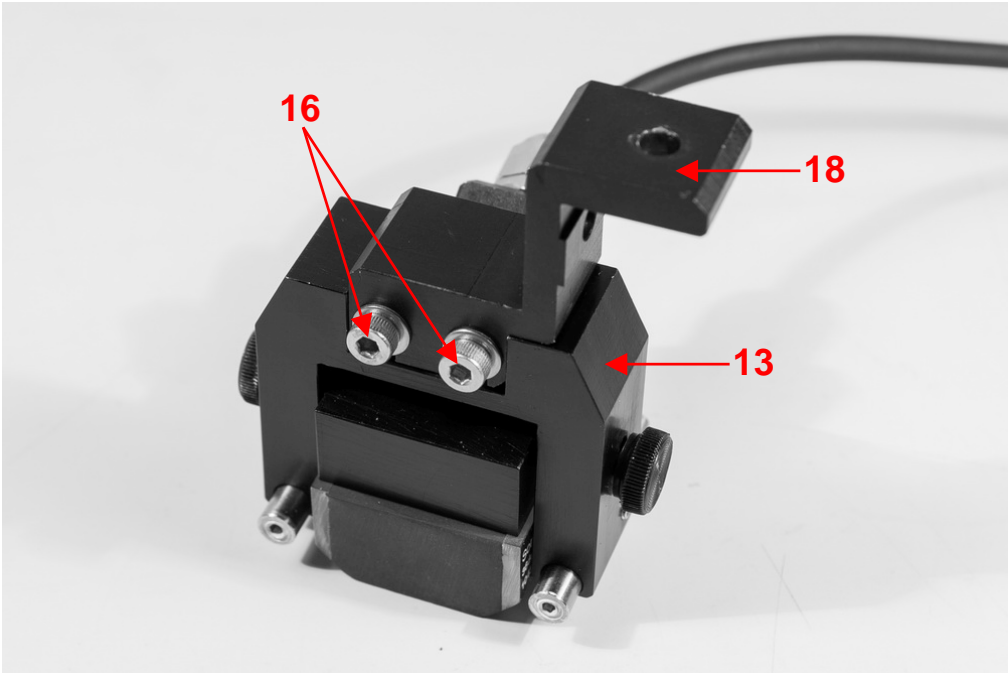

Fig.14
1. Attach fixture [18] to Probe Holder [13], and secure with screws [16] as it is shown on the Fig.14